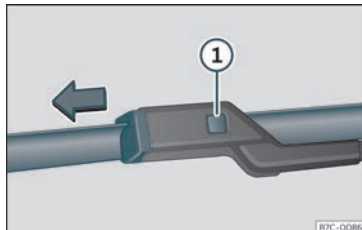

Fig. 36 Changing the windscreen wiper blades
- Press and hold release button »» Fig. 36 ❶ and pull gently on the wiper blade in the direction of the arrow.